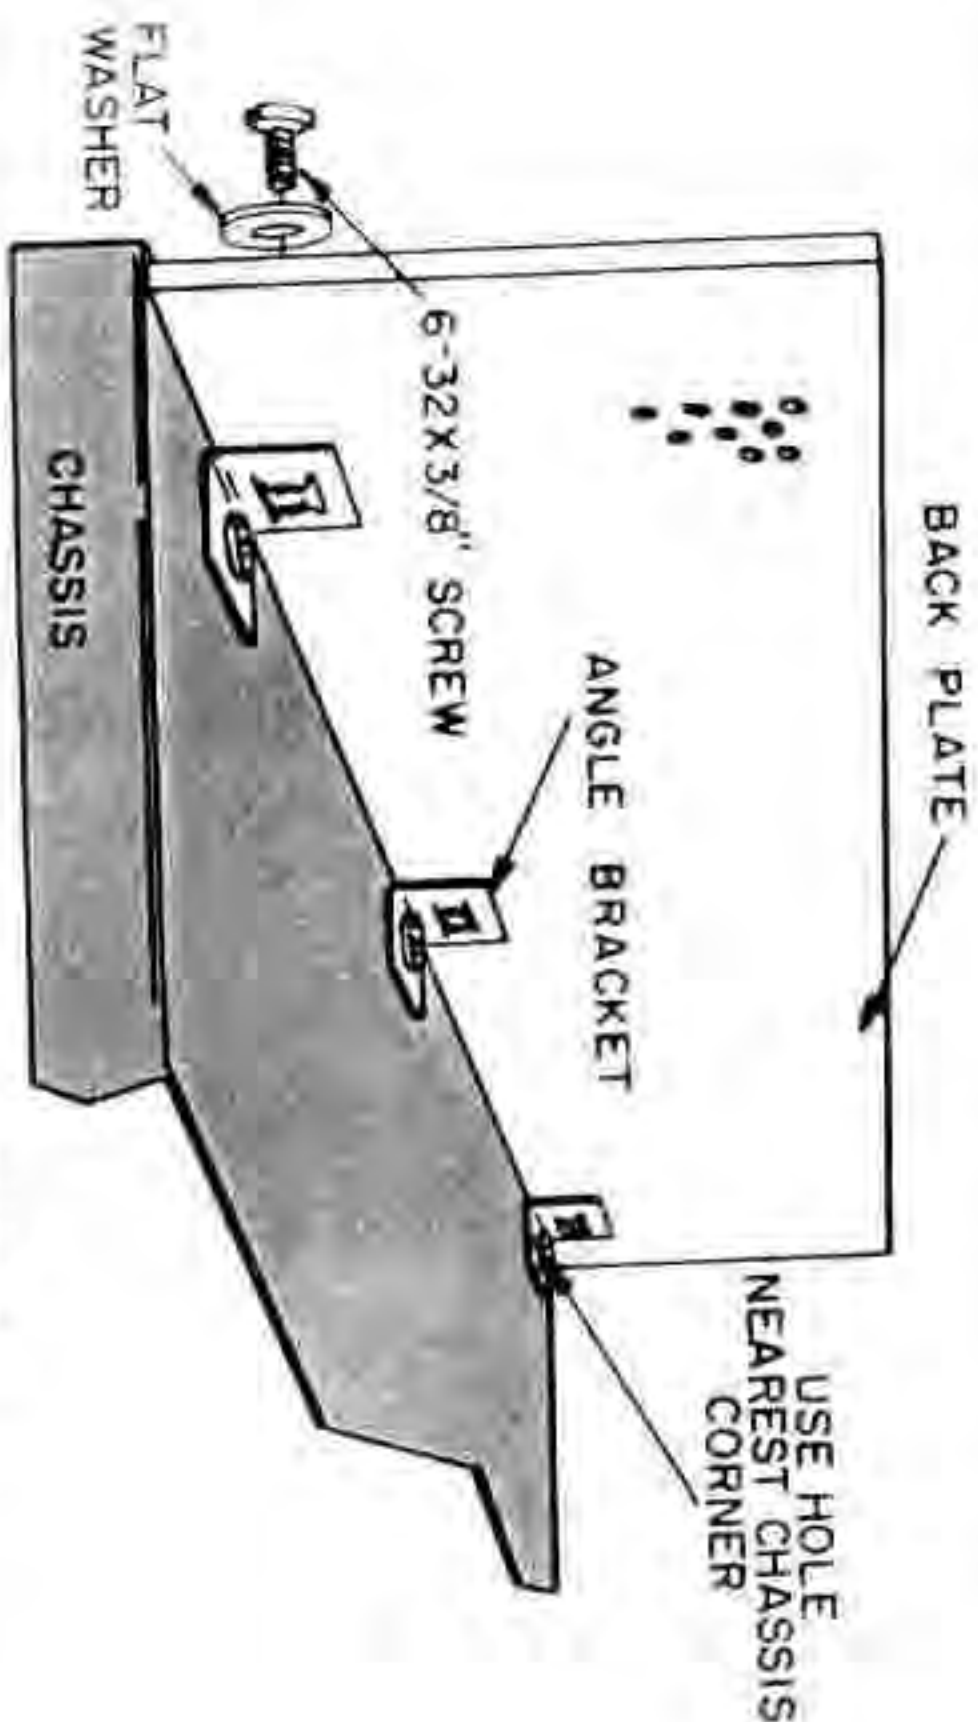

FIGURE 2.
- ✓ 3 angle brackets. Mount on top of the chassis, the upright portion parallel to the rear edge of chassis, with three 6-32 x  $\frac{1}{4}$ " screws, lockwashers and nuts, as shown in Figure 2. Use the plain, unthreaded bracket holes for this step.